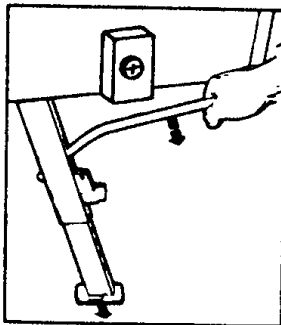

FIG. 7
17. Using the stabilizer jack handle, extend the inner legs of the stabilizer jacks to stabilize the trailer, making sure the handle is inserted through rear hole. (See Figure 7.) Remove jack handle and stow.